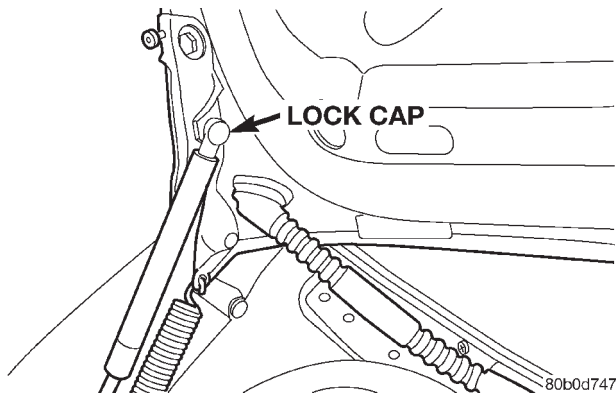
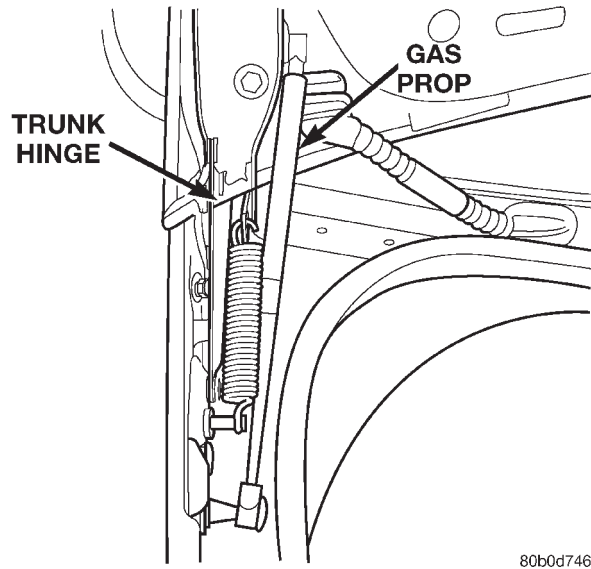

Fig. 61 Gas Prop-Rod Lock Cap
Fig. 62 Decklid Hinge
- (1) Open decklid.
- (2) Mark outline of hinge on quarter panel trough and inside of decklid to aid installation.
- (3) Place a padded block between the deck panel and the decklid.
- (4) Remove the gas prop-rod lock caps (Fig. 61).
- (5) Remove prop-rod from mounting studs.
- (6) Disconnect spring (Fig. 62).
- (7) Remove bolts attaching hinge to decklid.
- (8) Place decklid against padded block and hold it steady.
- (9) Remove bolts attaching hinge to quarter panel trough.
- (10) Remove hinge from vehicle.